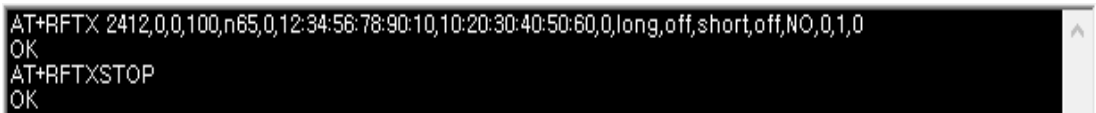

Figure 12. Debug console – Stop TX
- When you click the **Stop TX** button, the message appears as shown in Figure 12.